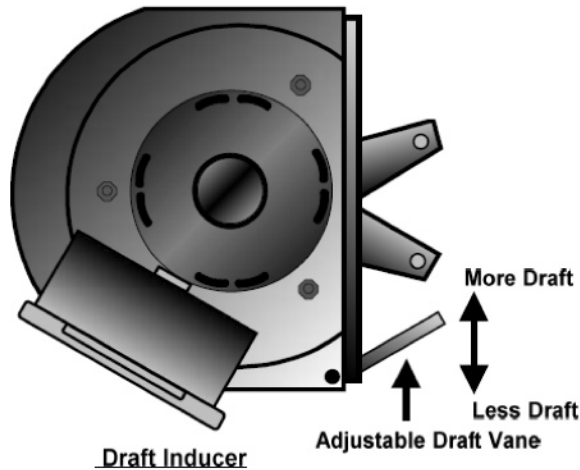

Figure 4 – Draft Inducer Adjustment
The Draft Inducer has a manually operated Adjustable Draft Vane that when moved Up or Down controls the amount of draft in the chimney. By setting this vane in the proper position the optimal draft setting can be achieved. (See “Figure 4”)
- 3) If the measurement is below **.05” WC** then there is not enough draft and it must be increased to avoid air starvation of the furnace. Move the Adjustable Draft Vane on the Draft Inducer (See Fig.4) “UP” and increase the draft until a reading is achieved between **.05” - .07” WC**.
- 4) If the reading is above **.07 WC** then there is too much draft and it must be reduced to prevent over firing of the furnace. Move the Adjustable Draft Vane on the Draft Inducer (See Fig.4) “DOWN” and decrease the draft until a reading is achieved between **.05”- .07” WC**.